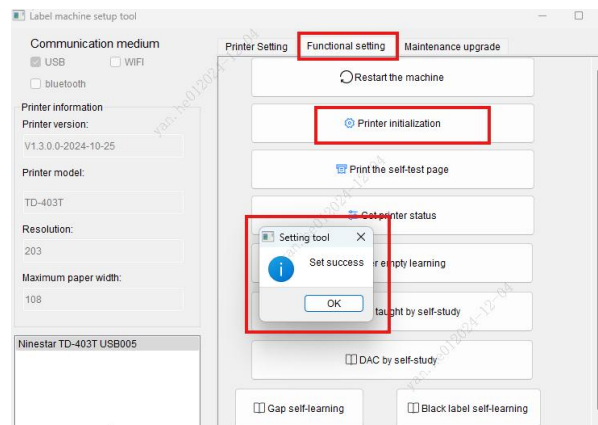

Fig.50
(2)Printer initialization: Select the "Functional setting" section and click on "Printer Initialization" which will prompt the "Set success" dialog box (shown in Fig.50), indicating that the printer initialization is successful.